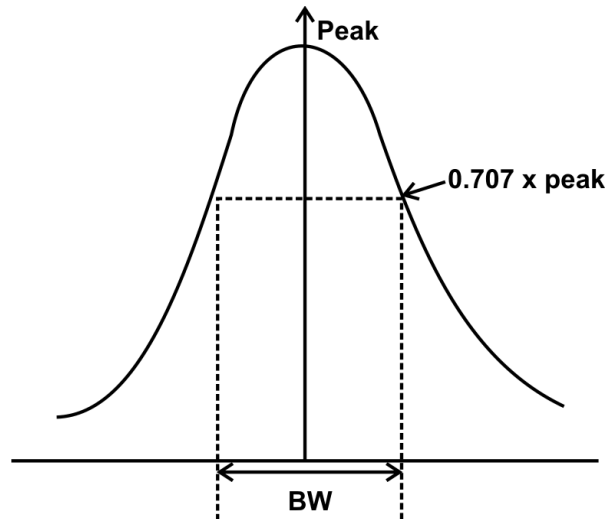

Fig. 14.9: Spectral content of light source
- The refractive index of a core is not the same for the lights of different wavelengths but it varies across the spectrum. The practical light sources do not give pure monochromatic light but produce a spectrum distributed about a central wavelength λ_0 as shown in fig 14.9 with a spectrum bandwidth of 3dB. The light components of the pulse with shorter wavelength will experience more delay and the light components of same pulse with longer wavelengths will experience less delay. Therefore, the result is time dispersion at the receiver end of the fibre.
2. A narrow bandwidth source will produce less dispersion than a wideband source. The fig. 14.9 clearly shows that the material dispersion is proportional to the bandwidth.